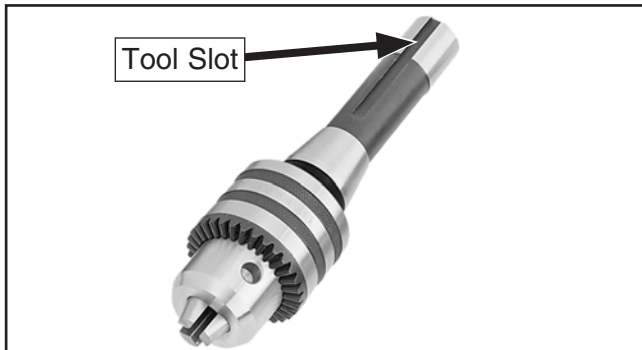

Figure 26. 1–13mm drill chuck joined with R-8 arbor.
The Model G0758 includes a 1–13mm drill chuck joined with R-8 arbor (see **Figure 26**).
3. Align tool slot (see **Figure 26**) with pin inside spindle, then insert tooling into spindle until it contacts drawbar.